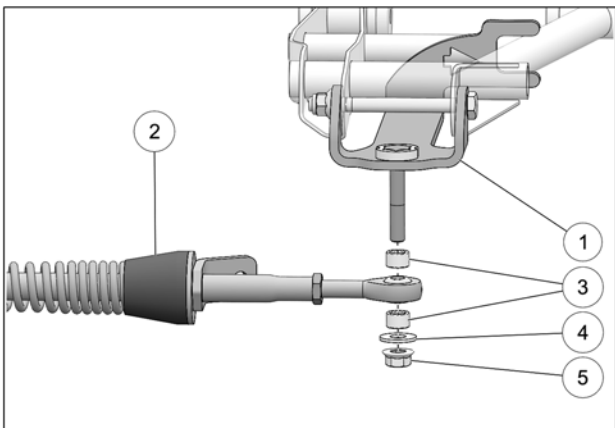

Fig. 11
10. Attach stabilizing rod (2) to anchor bracket (1), using the spacer bushings (3), flat washer (4), and nut (5). Torque to $70 \text{ N}\cdot\text{m}$ [$52 \text{ lb}\cdot\text{ft}$]. See Fig. 11